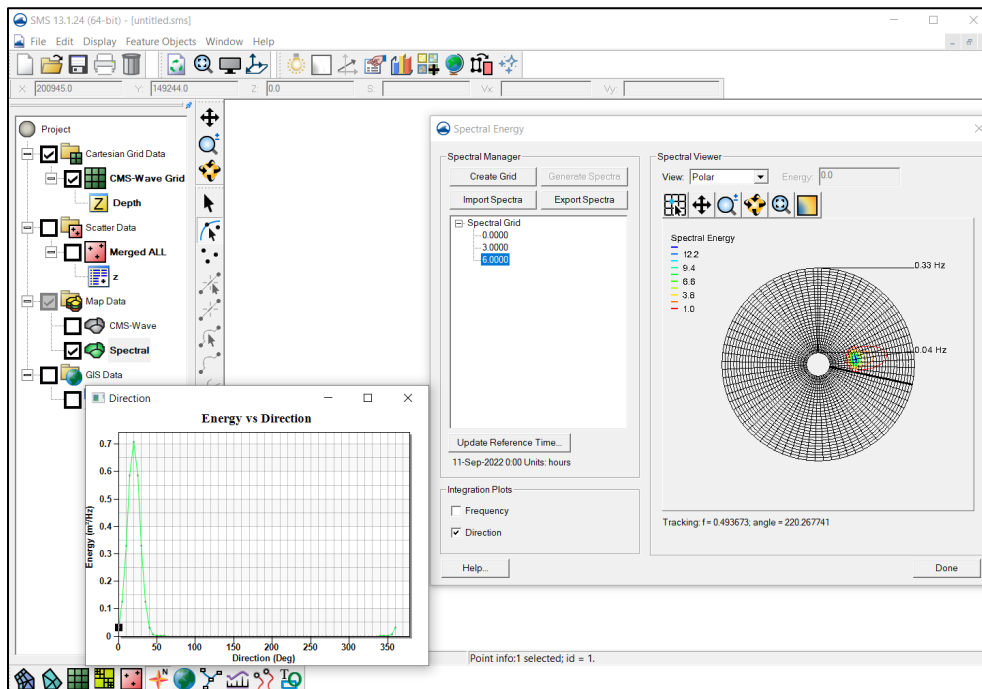

Figure 20. Display spectral contours in *Spectral Energy* dialog.
- In the *Spectral Parameters* section, enter the following parameters in the given spreadsheet (Figure 20). The “Angle” is the mean wave direction (‘to’ direction in the mathematical and “Local” convention). The “Hs” and “Tp” are significant wave height (m) and spectral peak period (second), respectively. The “Gamma” is the peak enhancement parameter in the TMA or JONSWAP (deep water range) spectrum. The “nn” is the power (an even number) of a cosine-type function for distribution of wave energy with respect to the mean wave direction.
A list of Time/index (numerical label) should appear below the *Spectral Grid* in the spectral energy tree box. Click (highlight) one of the Time/index to show (display) the spectral energy contours (energy distribution) in *Spectral Energy* section. Note spectral direction in the display is shown as the ‘from’ direction (Figure 20).
- Under the *Integration Plots* section, check ‘Frequency’ and/or ‘Direction’ for ‘Energy vs Frequency’ and/or ‘Energy vs Direction’ plots (Figure 20).